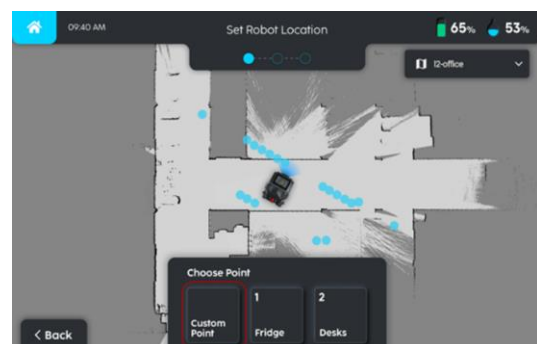

FIGURE 8-7
4. Once map is changed, the robot's position will be indicated on the map. The points and segments on the map correspond to the robot's vision through the LIDAR (Fig. 8-7).